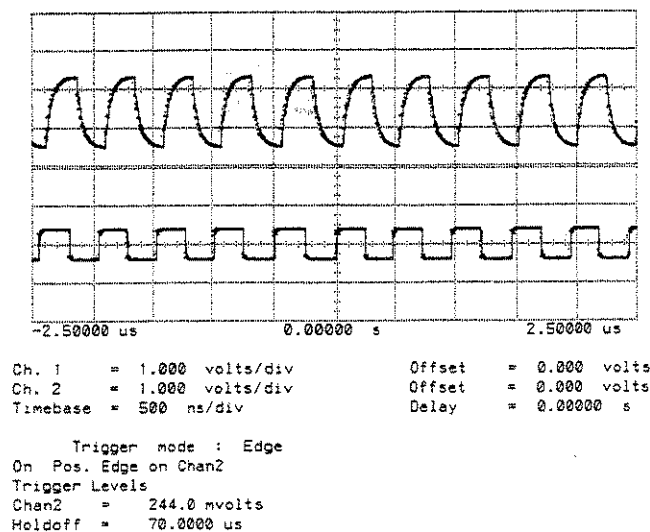

Figure 8-17 Pulse Shape Network Adjustment (10 Cycles Clock Output)
5. Slowly increase the Power Supply output voltage from 0V. The waveform on the oscilloscope display will be displaced as the voltage is increased. Check that the Channel A waveform can be displaced with respect to Channel B by at least 5.05 cycles as shown in Figure 8-17. (adjust the Pulse Shape Network to obtain the desired waveshape on Channel A).
15. Adjust the Oscilloscope timebase to calibrate 10 cycles of the Channel B waveform on the display. Adjust the Pulse Shape Network for a waveform as previously shown in Figure 8-17.